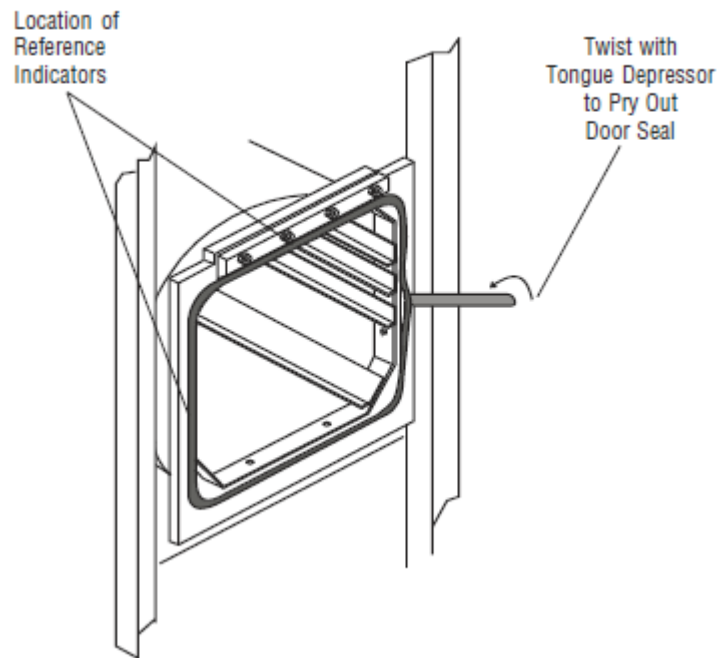

Figure 3-8. Remove Door Seal
1. Use a tongue depressor or similar non-metal tool to pry and twist one section of the seal from the groove. Refer to Figure 3-8.